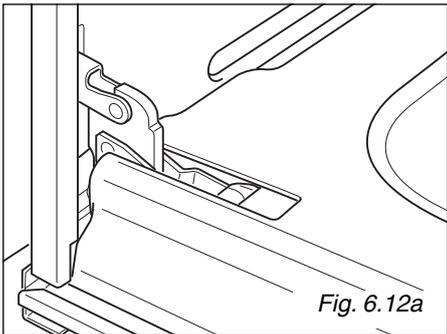

Fig. 6.12a
- Open the door to the full extent (fig. 6.12a).